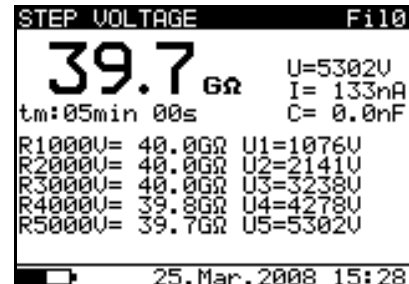
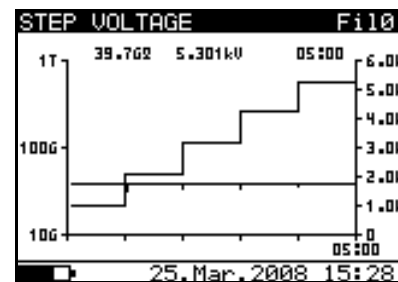

Fig. 39: Numerical screen of result
Fig. 41: Graphical screen of result
6. Wait for the end of the set Timers. The result of test is shown at display (see Fig. 39 or Fig. 41) with meaning of items described in Table 8